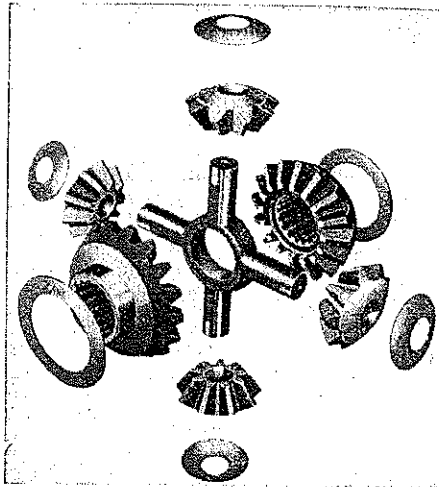

Fig. 174 Layout of differential parts
2. Lubricate differential case inner walls and all component parts, Fig. 174, with axle lubricant.